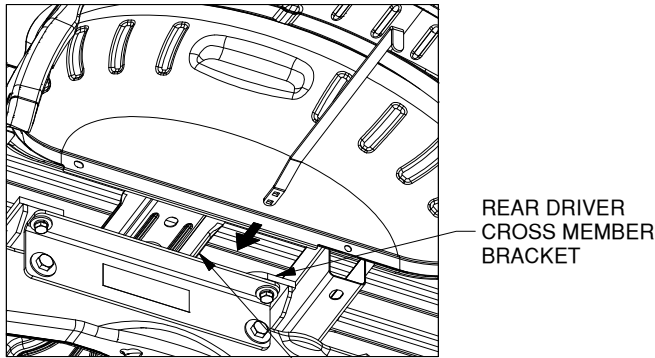

Figure E1: Driver Side Wheel Well. — BED STIFFENER
1. **Position Handle.** There is very little room between the bed and the frame. From the outside of the driver side wheel well pass the handle over the frame between the bed stiffener and the rear driver cross member bracket as shown in Figure E1. The handle will have to be pushed toward the cab once the end with the holes is past the frame.